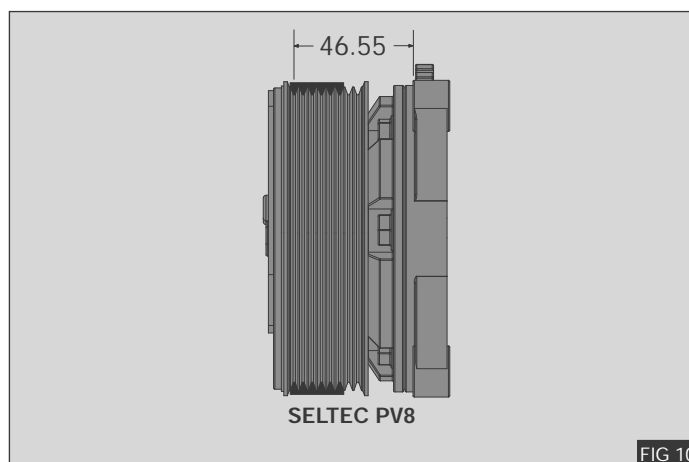

FIG 10
NB: Where applicable and dependent on the compressor model, align the supplied drive belt by installing in the correct clutch groove - Fig.10
1. Fit the supplied threaded pillar (26) to the position shown - Fig 10